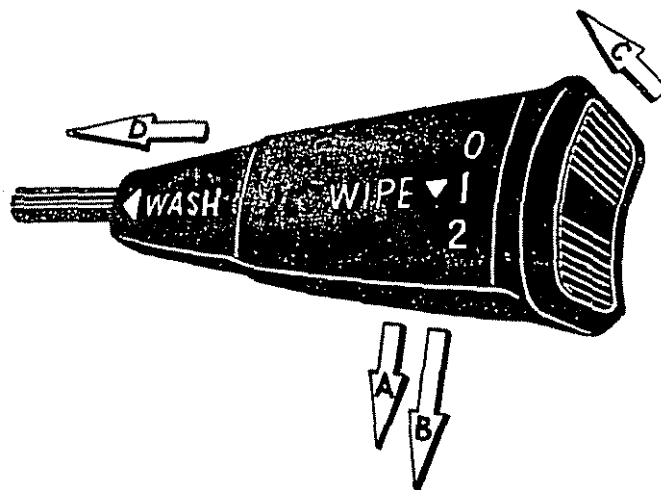

Fig. 6 Windscreen (windshield) wiper/washer control
1. Wiper - Move lever downwards until it locks in the first position '1' (A of fig. 6) for normal wiper speed. A high speed wiper **action** can be selected by moving the lever down further until it locks in the second position '2' (B of fig. 6). Move lever **upward** to the off position '0'.
To 'flick wipe' the screen, lift the lever upwards (C of fig. 6) and hold for the duration of the wipe. On release the lever will **automatically** cancel and return to the off position '0'; the wiper blade returning to its normal parked position.
2. Washer - To operate screen washer **jets** push **stalk** towards the steering column (D of fig. 6) and release. A hold of approximately one second duration will provide ample water for a normal screen **wash**. To improve the **wiping** of the screen add 55 cc of solvent (Part No. A075M6110Z) to the reservoir to help remove road dirt and grease.